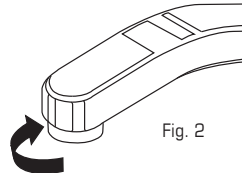

Fig. 2
1. **Unscrew** to remove the aerator (wire screen) and washer from the end of your faucet (Fig. 2).